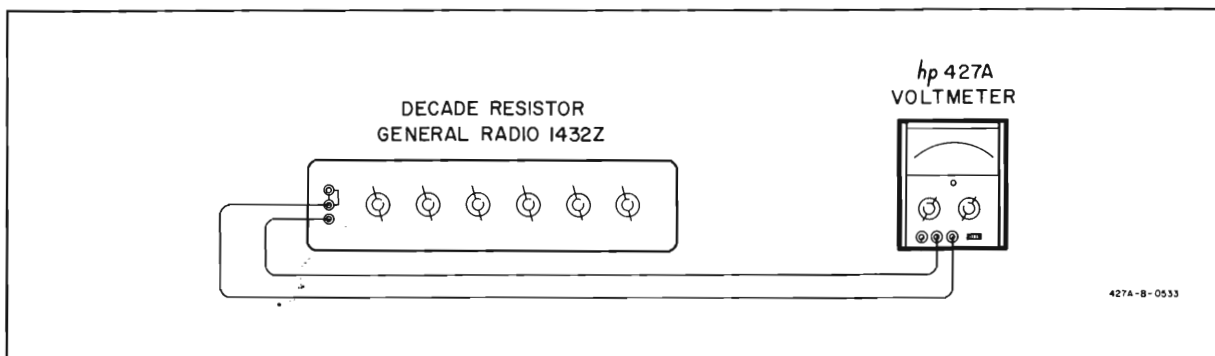

Figure 5-2. Resistance Accuracy Check
5-15. To check the resistance accuracy, precision resistances are needed. Figure 5-2 shows the resistance accuracy check using a General Radio Model 1432Z Decade Resistor. The resistance used should be accurate to within $\pm 0.5\%$ and should have a range of 10 ohms to 10 M ohms.
- Connect the decade resistor and the Model 427A as shown in Figure 5-2, and set the decade for 10 Ω .